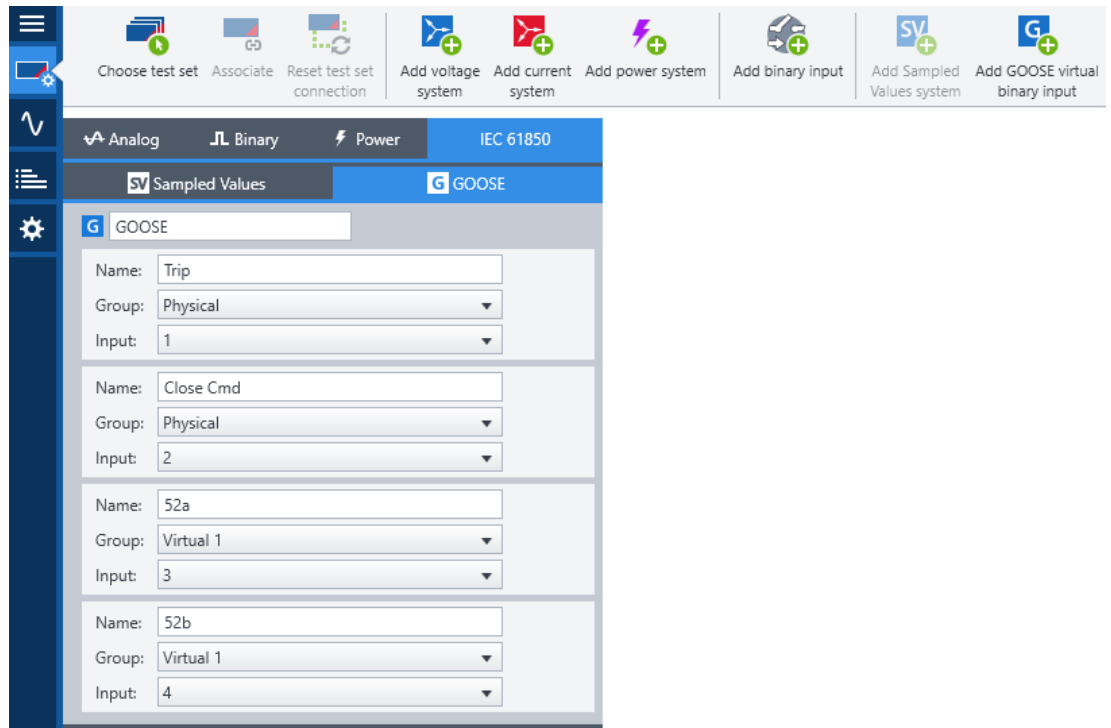

Figure 15: Test set configuration for GOOSE messages.
- d. Configuration of IEC 61850 GOOSE messages, as exemplarily shown in Figure 15: